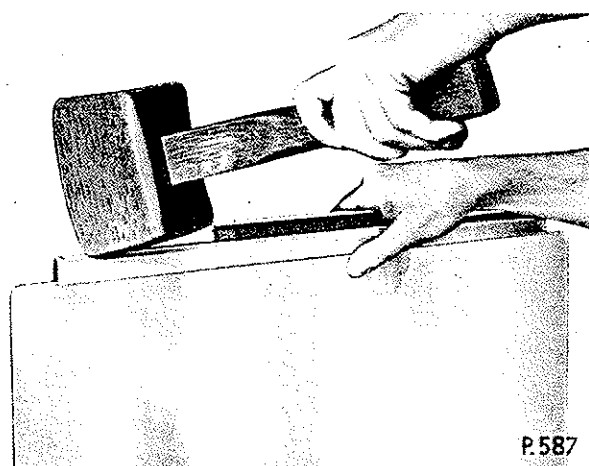

Fig. O.5. Tapping the dropping glass bottom channel, complete with seal, on the dropping glass
- Place the dropping glass on a pad of thick felt to prevent damage and tap the channel on the lower edge of the glass (see Fig. O.5) until the channel is fully bedded and ensuring that the channel is located in the position marked prior to removing the original channel.